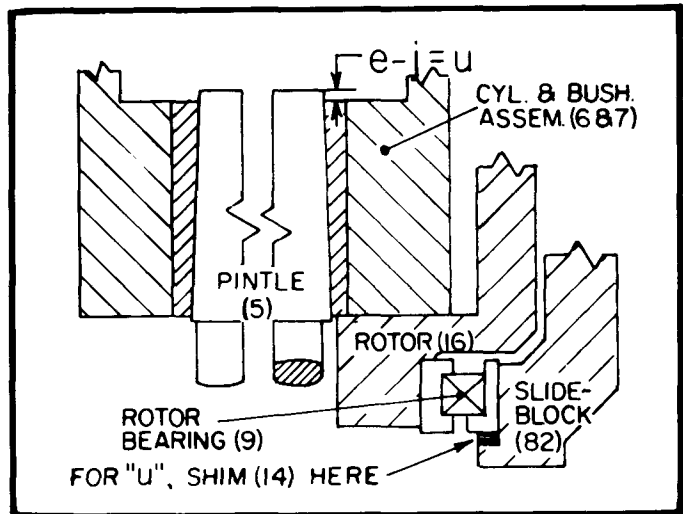

Figure 6. Cylinder "Off-of-Tight" Position. (508644)
See Figure 6. Pintle should project beyond cylinder by an amount equal to: "e" dimension minus .050" (j). Add or remove rotor bearing shims (14) for correct off-of-tight position of cylinder. This is the "u" dimension. Write it down.